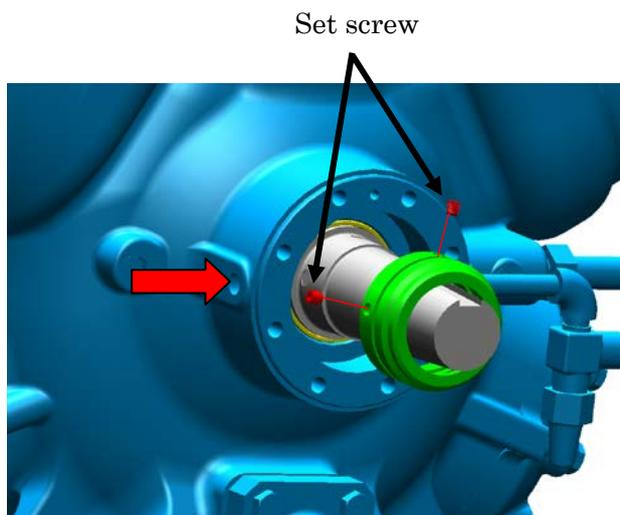

Fig.9.11 Installing Seal Assembly
- b. Set two set screws on shaft seal collar to the fixed counter sinkings and tighten them firmly. Using a hex wrench inserting the plug hole pointed by the red allow in Fig.9.11 makes this work easier.